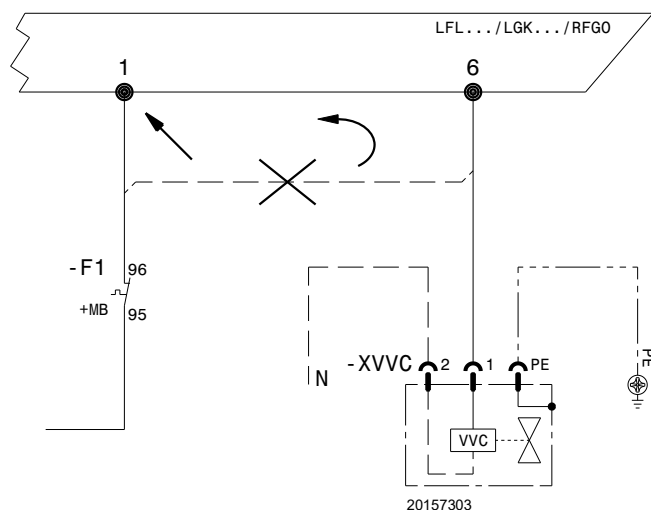

Fig. 6
- Connect the supply of the valve included in the kit to terminal 6 of the flame control, to the point where the motor control was previously removed (Fig. 6);